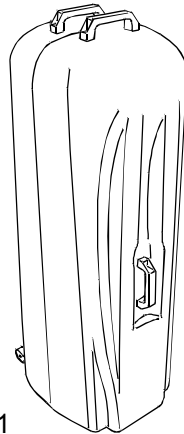

Fig 1
1. Wheel the Highlite to selected location and stand upright on its wheeled base (Fig 1).